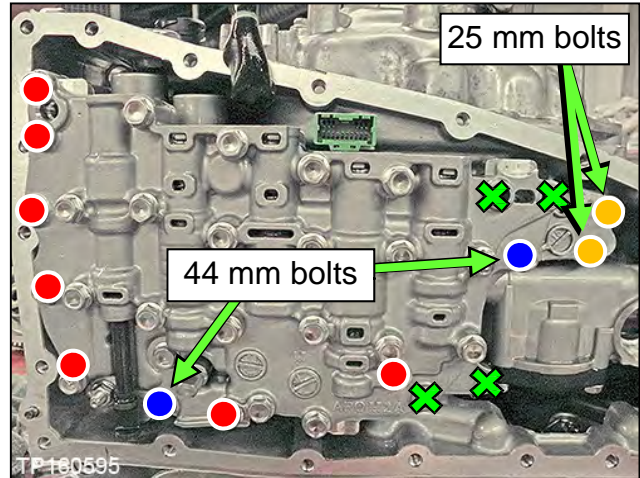
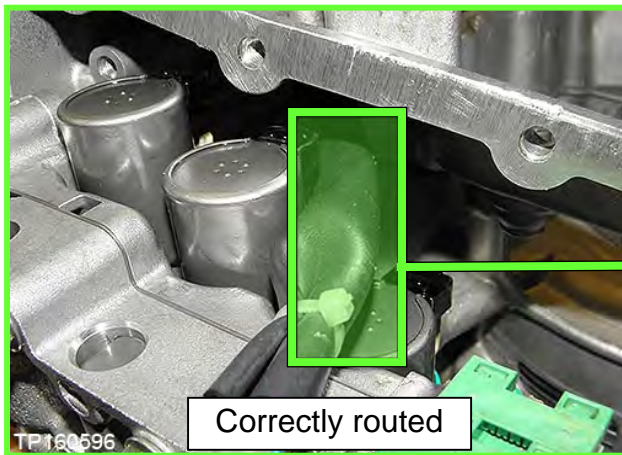
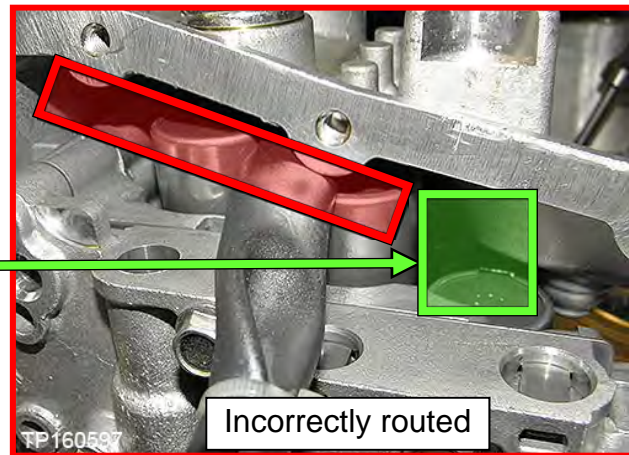

Figure 177
Figure 178
Figure 179
144. Install the Control Valve with eleven (11) mounting bolts (Figure 177).
**IMPORTANT:** Leave four (4) ✘ bolt holes blank at this step.
**CAUTION:** Make sure the wiring harness does not get pinched (see Figure 178 and Figure 179 for correct routing).